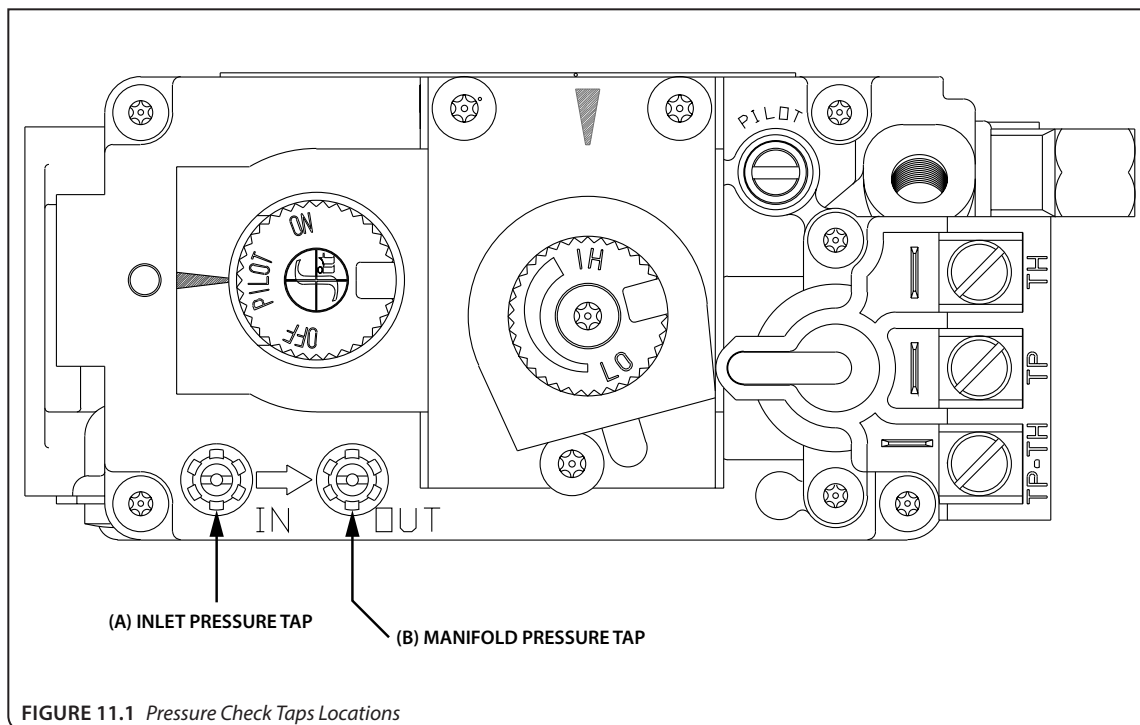

FIGURE 11.1 Pressure Check Taps Locations
1. Loosen the inlet (IN) pressure tap by turning screw counterclockwise. See (A) in **FIGURE 11.1**.
8. Disconnect hose and tighten the inlet (IN) pressure tap by
2. Loosen manifold (OUT) pressure tap by turning screw counterclockwise. See (B) in **FIGURE 11.1**.
7. Attach the manometer to the manifold pressure tap (B) to verify it is completely sealed. The manometer should read no pressure when the ON/OFF rocker switch is pressed to ON.